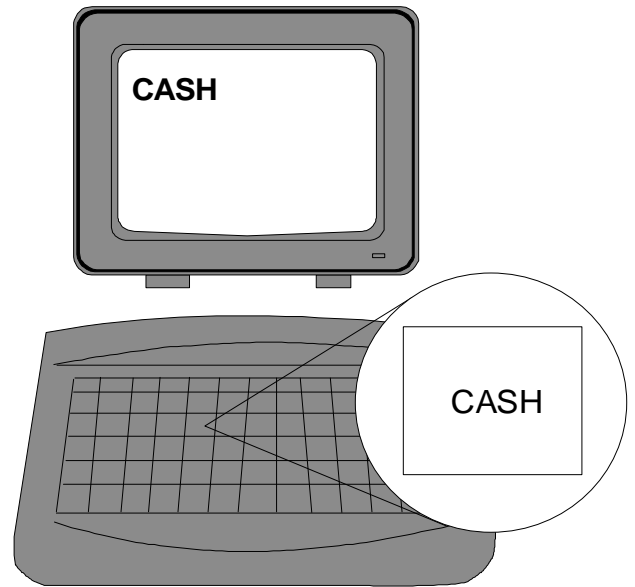

Figure 7
- also program the key to output the characters “OUT” when released. Refer to figure 7.